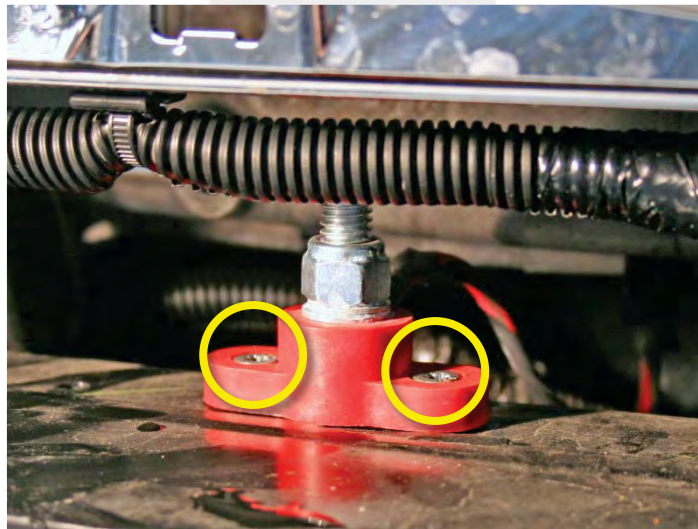

Figure 7
5. Remove and discard the 2 bolts that secure the jump post (Figure 7). Do not remove the wire from the jump post at this time.